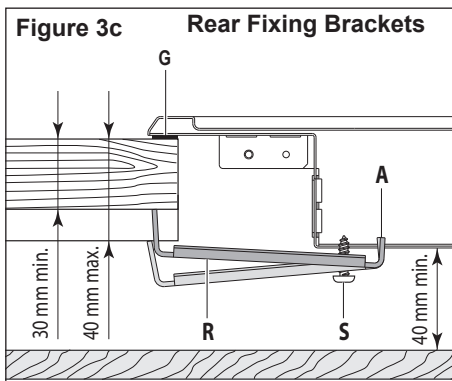

Figure 3c Rear Fixing Brackets
- Put the brackets “F” and “R” into place; tooth “A” of the brackets should go into the hole (figs. 3c, 3d).